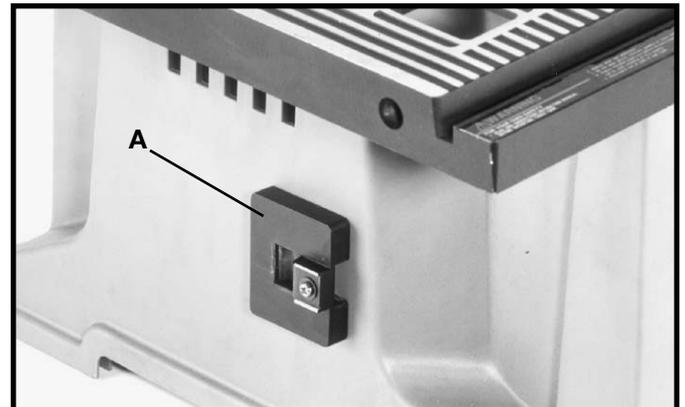
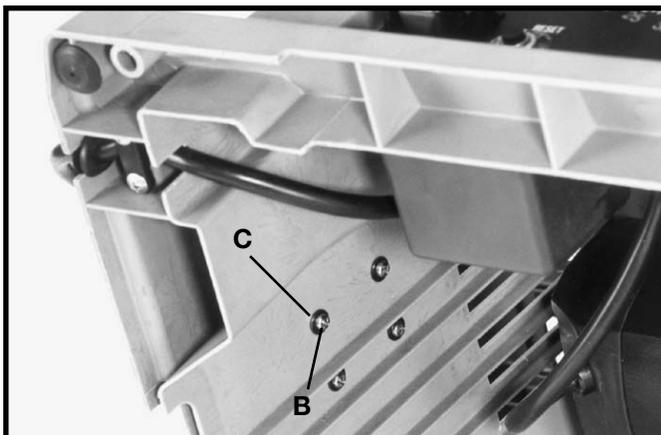

Fig. 28
Fig. 29
3. Assemble the miter gage holder (A) Fig. 28, to the left side of the saw cabinet using the four M4.2x10mm pan head screws (B) Fig. 29, and 3/16" washers (C) from inside saw cabinet.